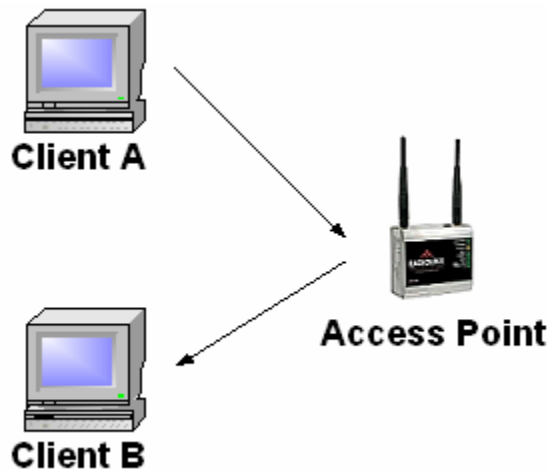

Figure 3: Example infrastructure network
In infrastructure mode, each client sends all of its communications to an access point (AP). The access point acts as an Ethernet bridge and forwards the communications onto the appropriate network- either the wired network, or the wireless network, see figure 3.